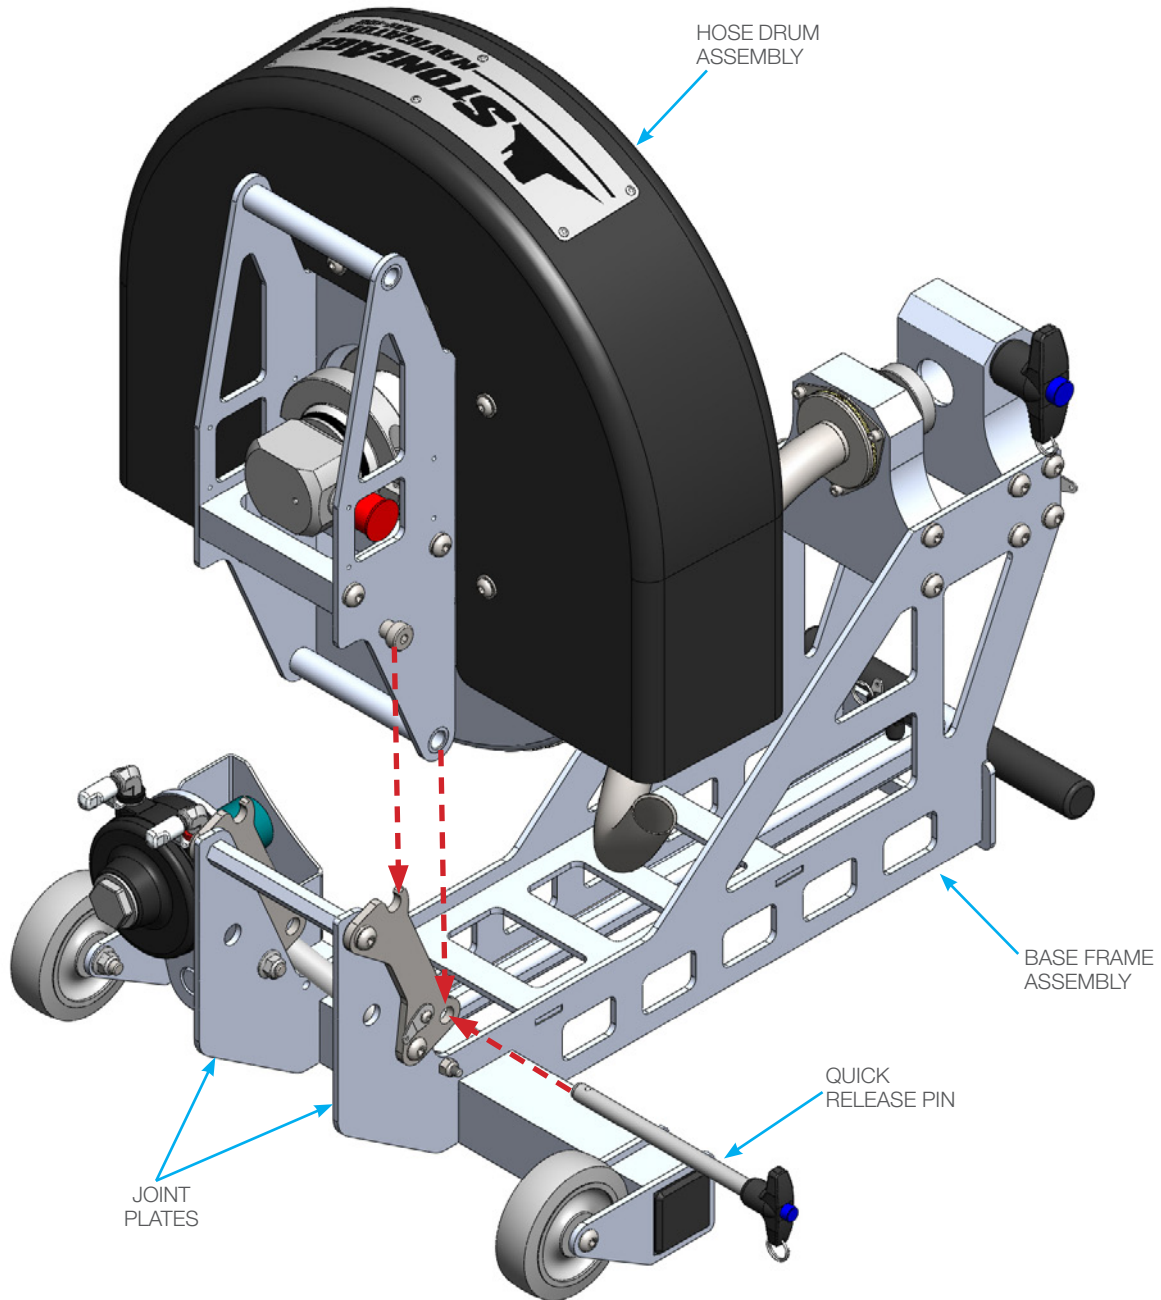

FIGURE 1
1. Remove Quick Release Pin from Base Frame Assembly. Install the Hose Drum Assembly onto the Base Frame Assembly by placing the shoulder screw heads into the notches on the Joint Plates and inserting the Quick Release Pin through the holes in the Joint Plates. **(Figure 1)**
1. Connect the female hose end to the hose connection tube and wind the hose in the direction of the arrow inside the drum. **(Figure 1)**
1. Pull on the Camlock Release Rings and slide the Camlock onto the male end of the ABX-PRO PRODRIVE. Push the Camlock pins back to lock into place. **(Figure 1)** Pull on the Snout Assembly to make sure it is secured. Feed the rest of the hose through the Snout Assembly and leave enough length to feed through a pipe flange attachment.
1. Attach the Quarter Plate Flange Mount to the pipe flange using the fasteners that were removed from the flange joint. The nuts shown between the pipe flange and the Quarter Plate Flange Mount are to allow for drainage. Other spacer options are acceptable. **(Figure 1)**
1. Attach the strap end to the strap capture bar and wrap the strap around the pipe towards the Winch Assembly. **(Figure 1)**